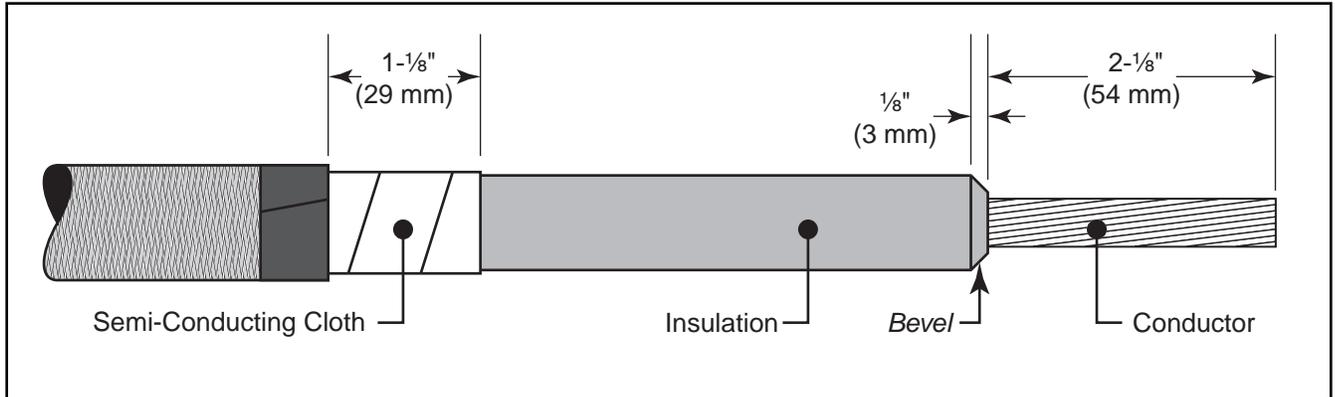

Figure 3
- 1.5 Remove semi-conducting cloth from each conductor, leaving 1-1/8" (29 mm) exposed beyond metallic shielding. (Figure 3.)
- 1.6 Remove insulation from each conductor for 2-1/8" (54 mm). (Figure 3.)
- 1.7 Trim off edge of insulation from each conductor to form a 1/8" (3 mm) bevel. (Figure 3.)